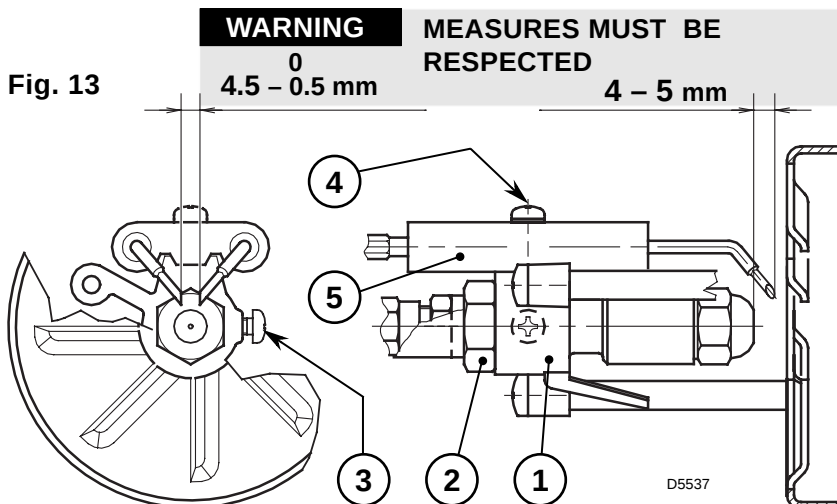

Fig. 13
- Hook the burner to the flange (1), by removing the blast tube (2) after loosening the fixing screws (3).
- Remove the small cables (4) from the electrodes and the diffuser disc-holder assembly (5) from the nozzle-holder assembly after loosening its fixing screw (3, fig. 13, page 7).
- Screw the nozzle (6) correctly and tighten it as shown in the figure.
- Remove nozzle-holder assembly (1) after loosening screws (2) and nut (3), remove the small cables (4) from the control box and the photoresistance (6).
- Withdraw the small cables (4) from the electrodes, remove the diffuser disc-holder assembly (10) from the nozzle-holder assembly (1) after loosening screw (3, fig. 13).
4.3 ELECTRODES ADJUSTMENTS (see fig. 13)
- Replace the nozzle (see fig. 11, page 6) and check the correct position of electrodes (fig. 13, page 7).